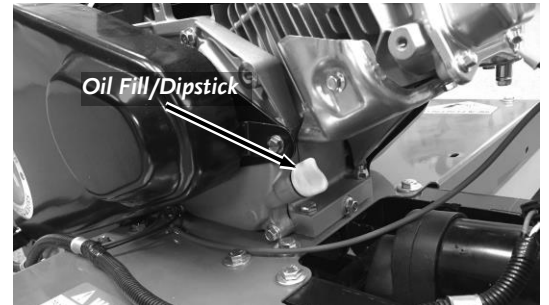

Figure 22
1. Remove the Oil Fill Cap/Dipstick and vacuum the oil from the Engine through the Oil Fill using a Vacuum Pump Oil Drainer (**Figure 22**).